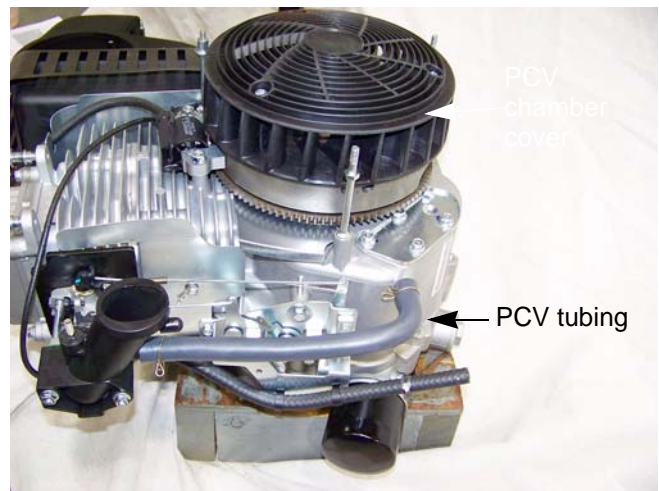

Figure 5.11
9. Inspect the PCV tubing for cracks, brittleness or signs of leaking. Replace the PCV tube if any are found. See Figure 5.11.